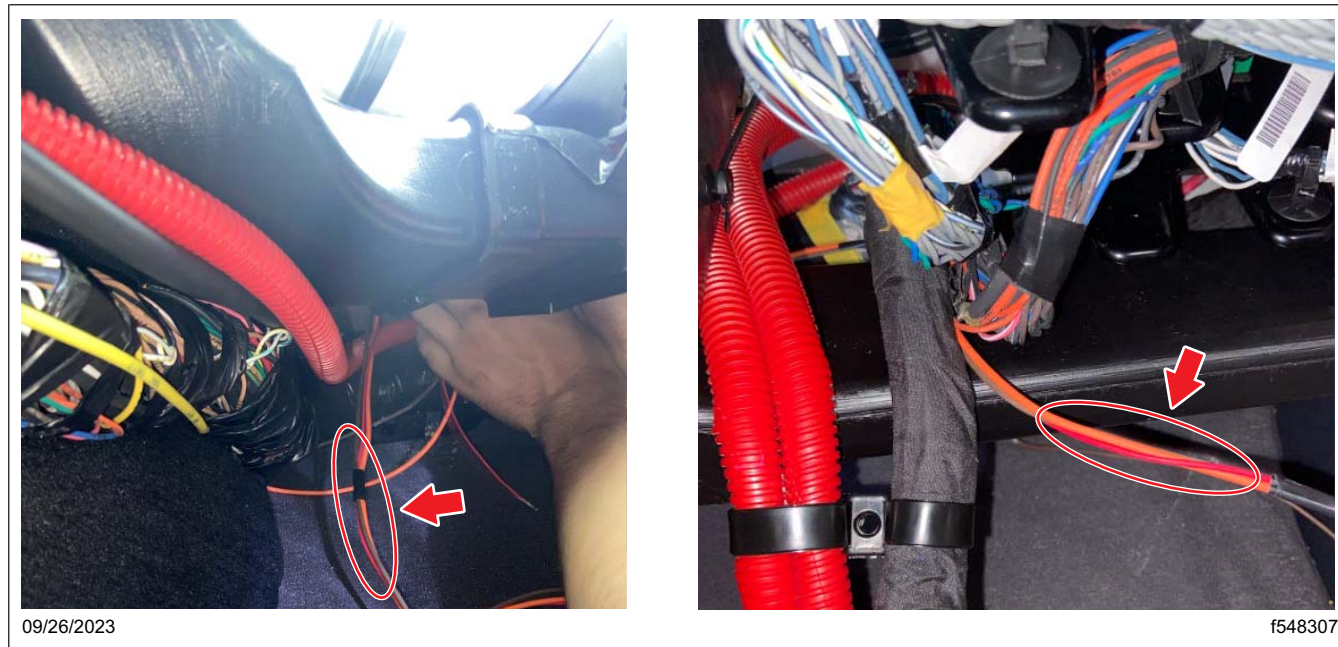

Fig. 39, Routing the Wires Towards the VPDM
- 12.6 On the passenger side, continue routing the three wires—orange (or pink), red, and brown—towards the VPDM. See Fig. 39.